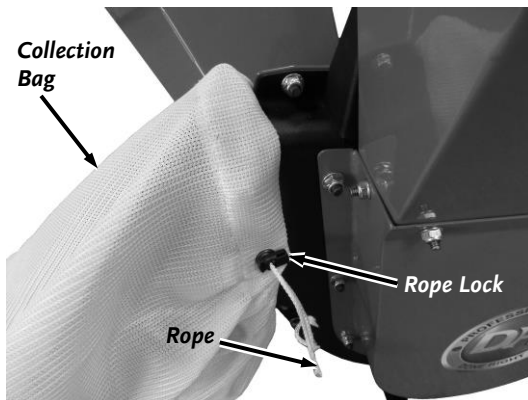

Figure 16
2. Squeeze the Rope Lock and pull the Rope to cinch the Collection Bag tightly around the housing tabs then release the Rope Lock (**Figure 16**).